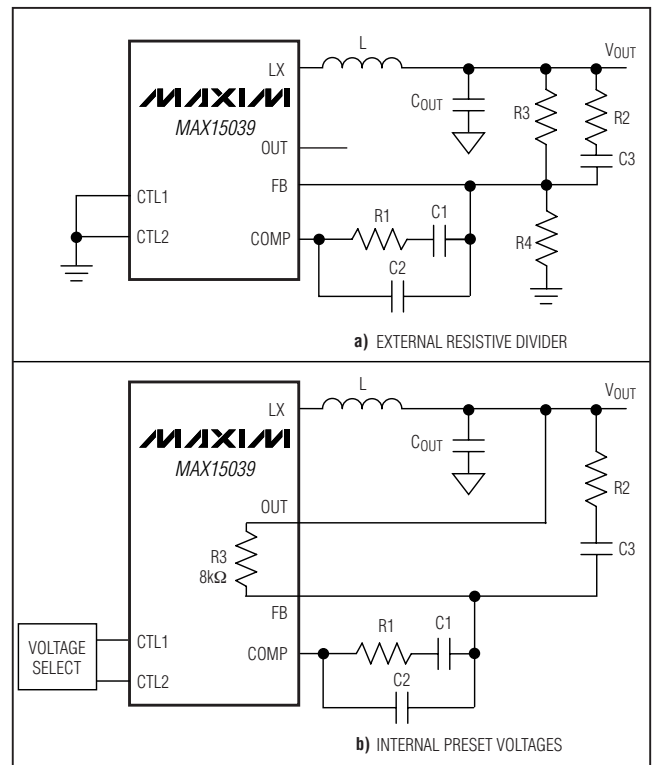

Figure 3. Type III Compensation Network
The high switching frequency range of the MAX15039 allows the use of ceramic output capacitors. Since the ESR of ceramic capacitors is typically very low, the frequency of the associated transfer function zero is higher than the unity-gain crossover frequency, f_C , and the zero cannot be used to compensate for the double pole created by the output filtering inductor and capacitor. The double pole produces a gain drop of 40dB/decade and a phase shift of 180° . The compensation network error amplifier must compensate for this gain drop and phase shift to achieve a stable high-bandwidth closed-loop system. Therefore, use type III compensation as shown in Figures 3 and 4. Type III compensation possesses three poles and two zeros with the first pole, f_{P1_EA} , located at zero frequency (DC). Locations of other poles and zeros of the type III compensation are given by: